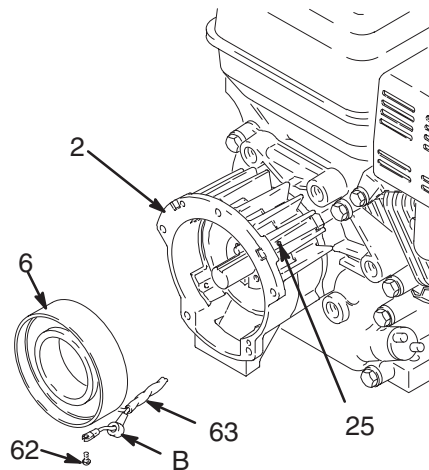

Fig. 17
**NOTE:** Refer to Fig. 17.
2. Pull the plastic caps (B) off the wire screws (62) in both places on the field. Remove the screws and remove the wire (63).
3. Back out the four setscrews (25) holding the field (6) to the clutch housing (2) approximately 5 turns.